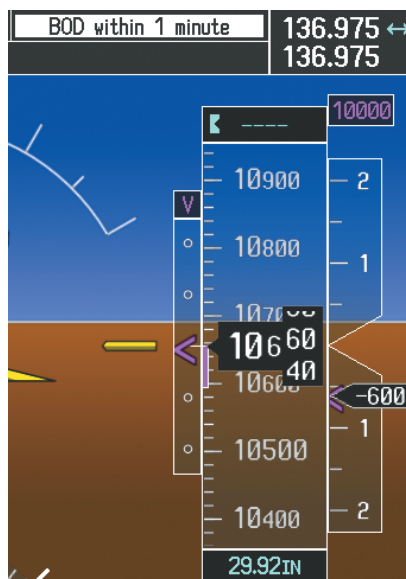

Figure 5-131 Approaching Bottom of Descent (BOD) at OPSHN Offset Waypoint
- 17) When the aircraft is one minute from the bottom of descent (BOD) it is annunciated as shown in Figure 5-131. Upon reaching the offset waypoint for OPSHN, the aircraft is at 10,000 feet.